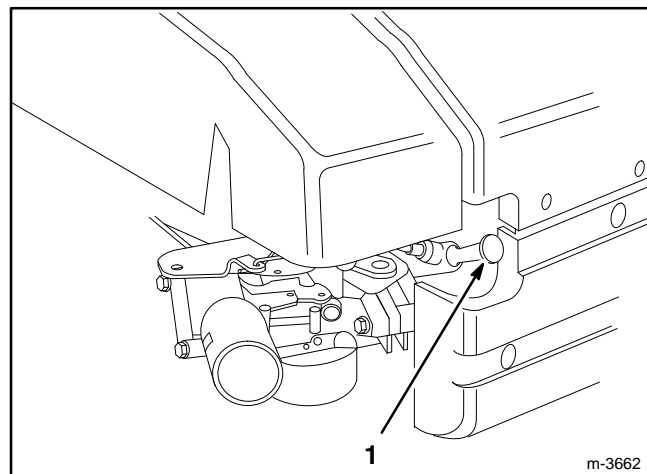

Figure 10
1. Push spark plug wire onto spark plug (Fig. 10).